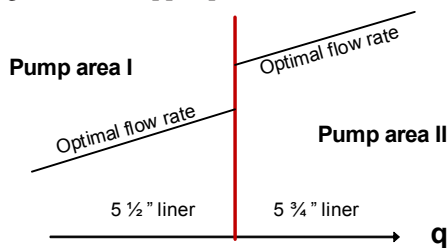
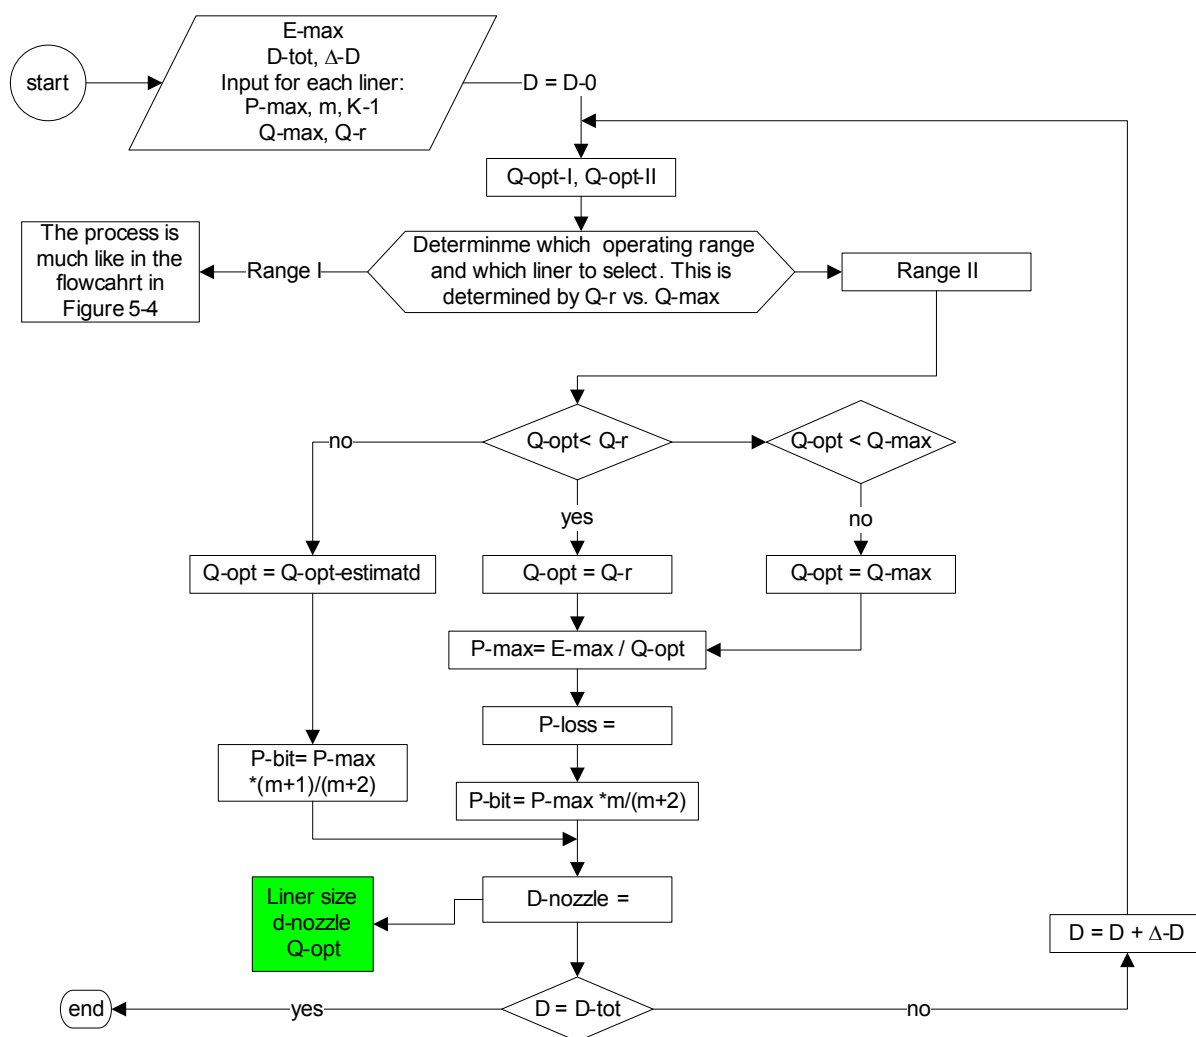

Figure 4-4: Boundary area between pump area II and I
Figure 4-5: Flow chart of estimating extended hydraulic parameters. In the upper part it distinguishes between the pump area ranges
- b) In Figure 4-4 we see the division between the two pump areas. A preliminary solution to how to distinguish between them is given in Figure 4.5, its upper part.